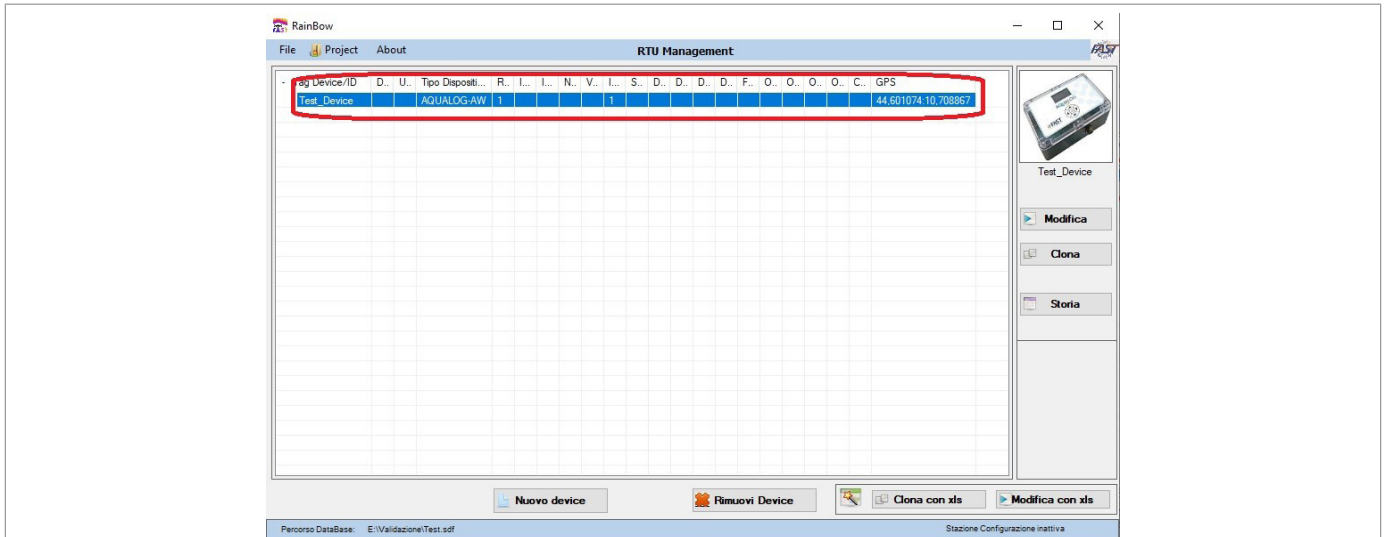

Fig. 8.21. Select RTU
3. Select the desired RTU (Fig. 8.21)